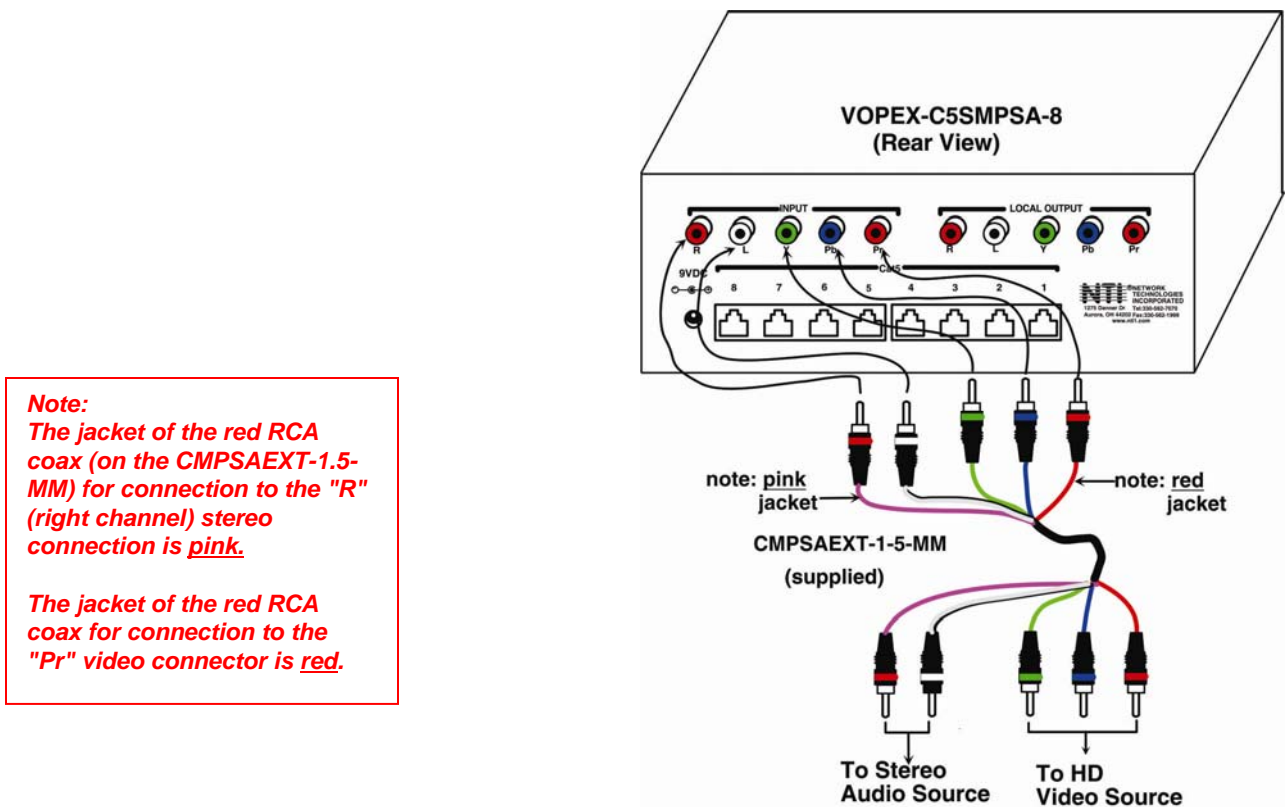

Figure 3- Connect HD Video and Stereo Audio sources
1. Make connections between the VOPEX-C5CMPSA-x and the stereo audio and HD video source. (See Fig. 3.)